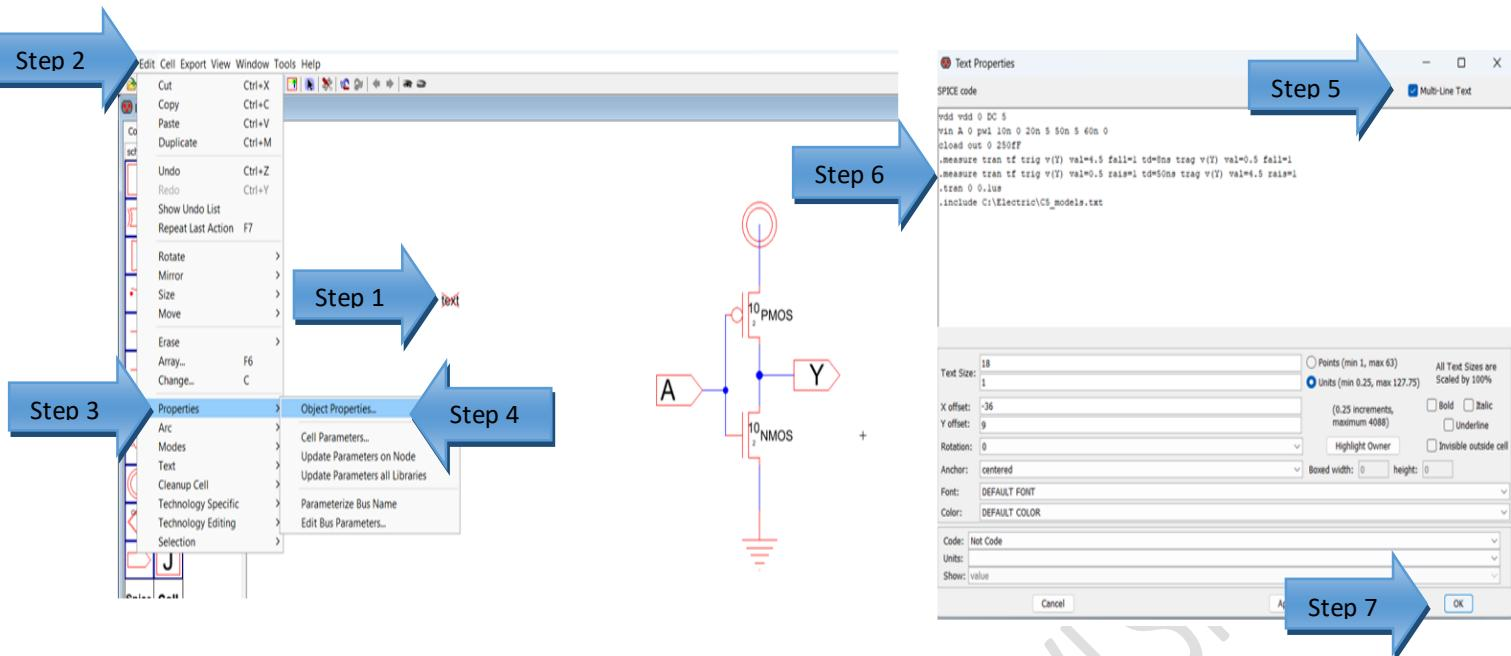

Figure 1.20: hoW TO Write code.
14. Then write the below code by clicking on the text and then click on Edit>> Properties>>Object Properties then write the code then click OK. (see Figure 1.20).